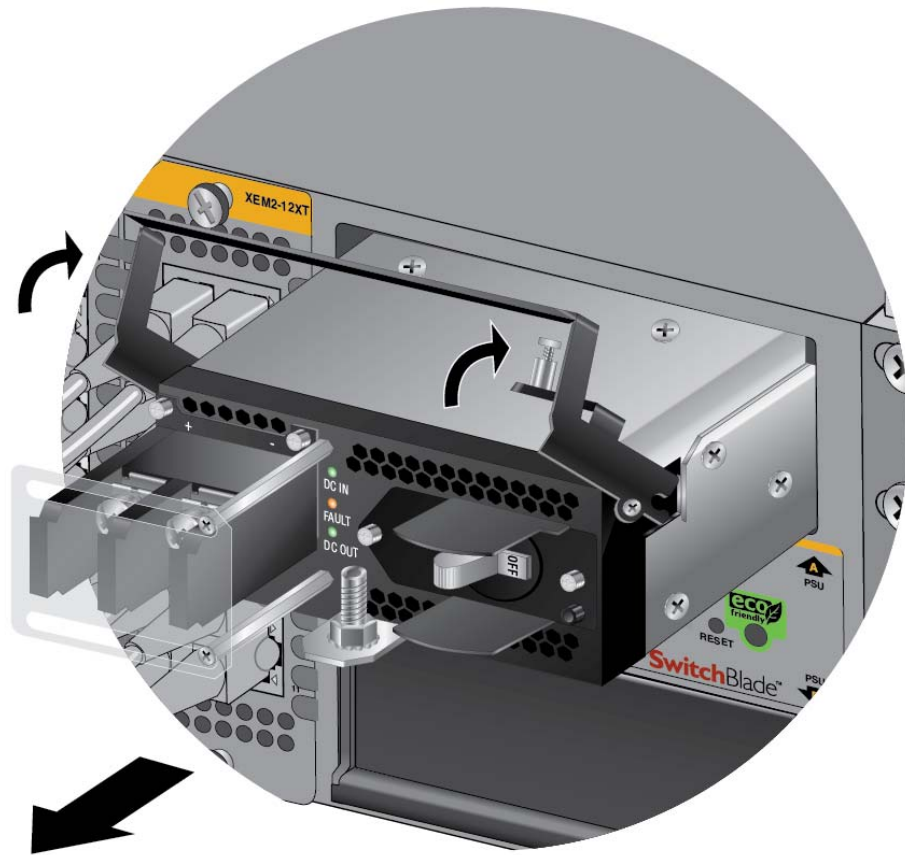

Figure 104. Lifting the Locking Handle and Removing the Power Supply
11. Lift the locking handle and slide the power supply from the chassis. Refer to Figure 104 on page 142.